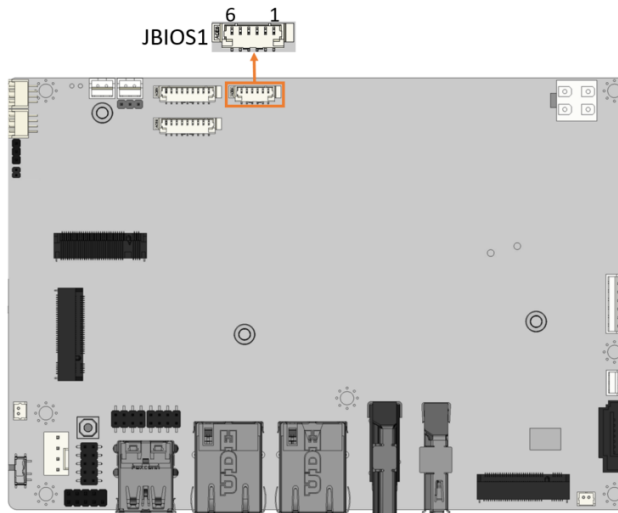

Figure 3-17: Flash SPI ROM Connector Location
- CN Location:** See **Figure 3-17**